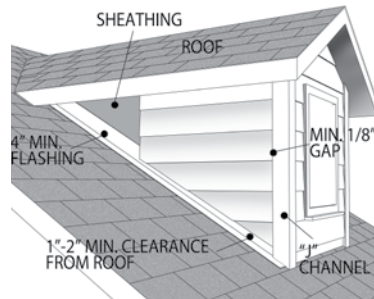

Fig. 16
- Provide a minimum of 1" clearance above any surface where water may collect, such as roof's porchs, decks, patios, and walks, etc., (see Fig. 13 and Fig. 16)